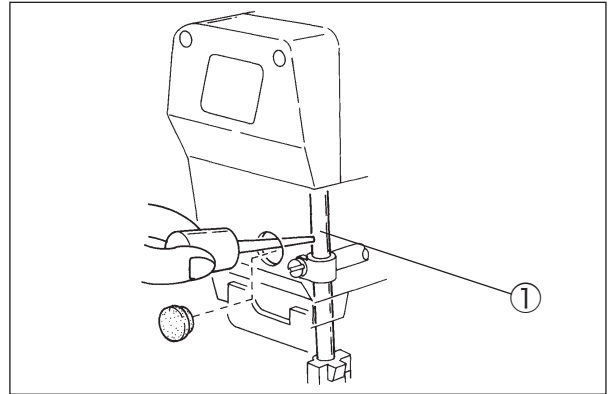

Fig. 4-1
When using a new machine or a machine which has not been run for a while, supply a few drops of oil to the needle bar ① and the looper bar ②. (Figs. 4-1, 4-2)